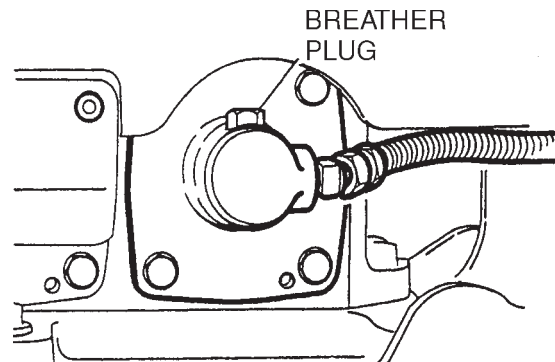

Figure 24. Bleeder Plug
1. Check hydraulic oil in every 100 hours of operation. With handle bar positioned vertically (storage position), remove **breather plug** (Figure 24) off the top of hydraulic pump and check for proper oil level.